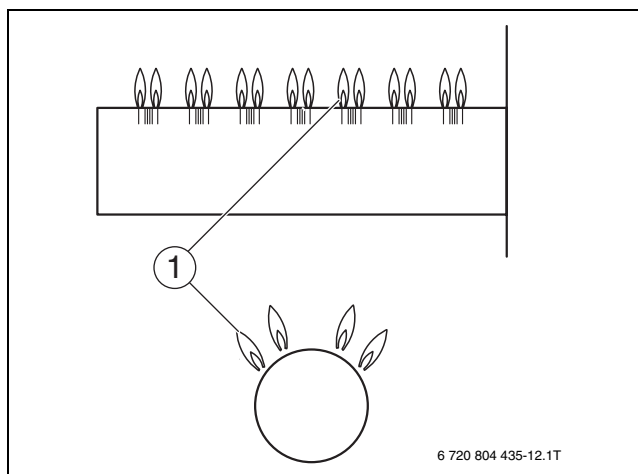

Fig. 12 Main burner
- ▶ Test the flame rod by closing the gas shut-off. The main burner flame (→ figure 12, page 8) and the ignition flame are extinguished. After no more than six (6) seconds the main gas solenoid valve on the gas valve must close with an audible noise. If the gas valve does not operate correctly, turn ON/OFF knob on the gas valve clockwise to the OFF position immediately. Close the main gas shut-off and disconnect the heating system from the main power source and contact the customer service technician or the gas company.
- ▶ After 90 seconds the igniter stops generating sparks for five (5) seconds.